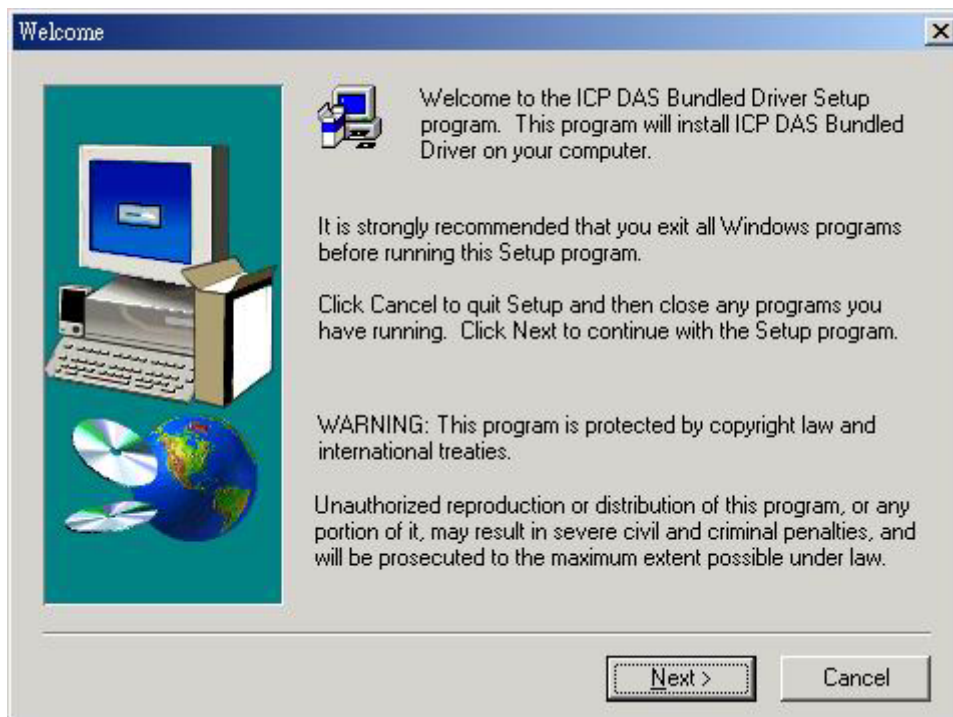

Fig 1-2. The “Welcome” window
Step 5: A “Welcome” window pops up to prompt user as Fig 1-2 shown.